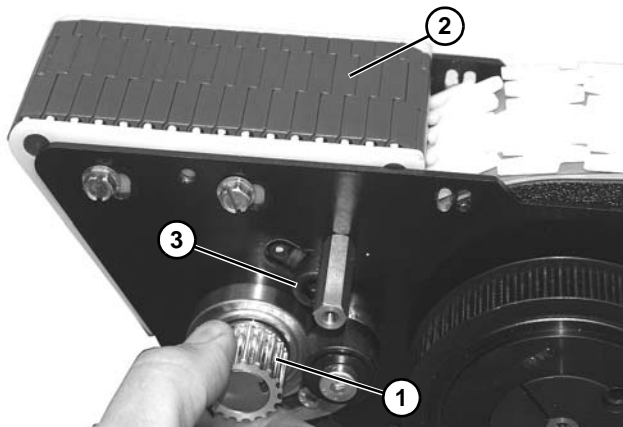

Figure 178
- Rotate drive shaft (**Figure 178, item 1**) to verify tightness of belt (**Figure 178, item 2**). Belt should turn freely. Loosen idler socket head screw (**Figure 178, item 3**) and adjust, if necessary.